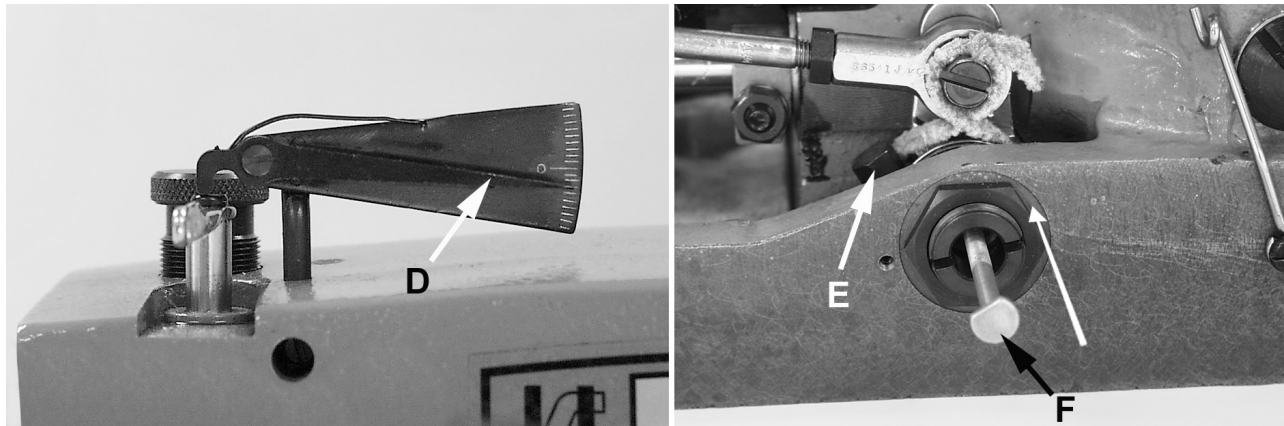

Fig 3B
If pointer on the indicator reads below the "0", (Fig. 3B). Loosen screw (E) in the looper drive lever and tap screw (F), (99271), slightly away from the operator. Retighten screw (E) in the looper drive lever and recheck the synchronization as outlined above.